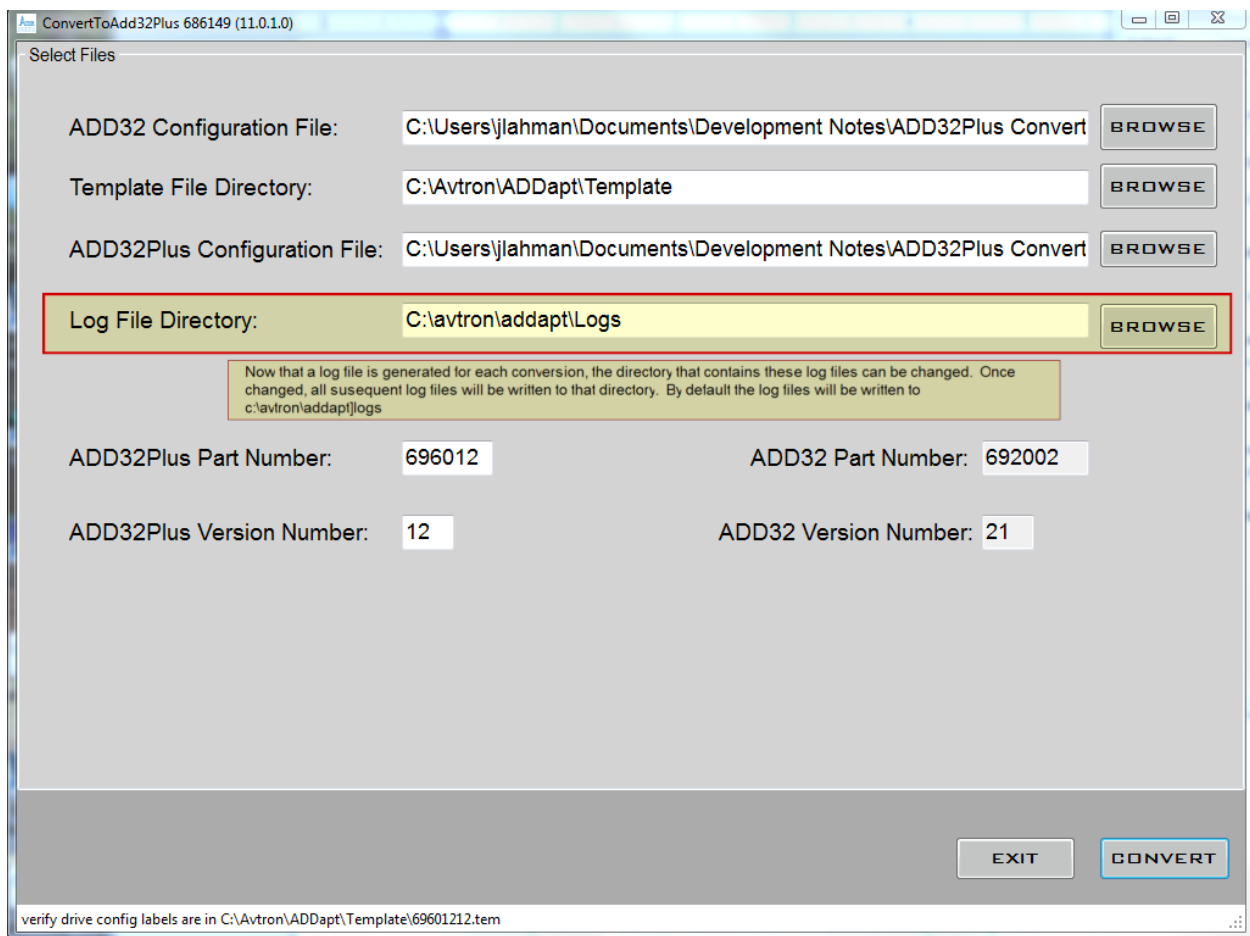

Figure 68 ConvertToAdd32+ UI now includes LOG file directory
- Real-Time graphical trending is not possible when using a serial connection and is not a selectable option in the screen. Notice figure 68 below.
- Editable digital element communication has been significantly improved in the latest version of ADDapt 3, but it is still best to use the most minimal analogs needed. Refer to figure 68 below as well.